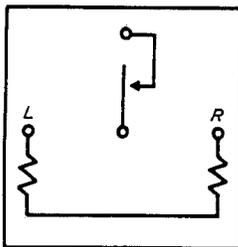

FIG. 20 - WINDING TERMINAL ARRANGEMENT AS VIEWED FROM THE REAR (TERMINAL SIDE) - 207 AND 213 TYPE RELAYS
2.18 As viewed from the front, the front contact is indicated by 1 and the armature by 2. The relative location of the winding terminals and typical designations are shown in Fig. 20.